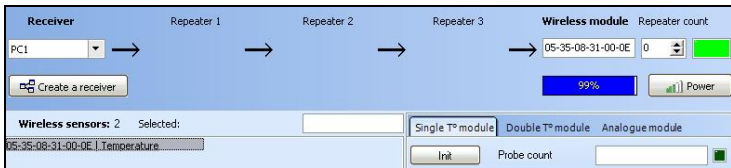

Figure 7 – Configuration with Cobalt 2 module on receiver “PC1”
4. Select your receiver in the pick-list (“PC1” in Figure 7), then select the wireless module from the sensor list on the left.